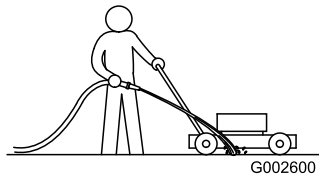

Figure 37
1. With the engine running on a flat paved surface, spray a stream of water in front of the right rear wheel (Figure 37).